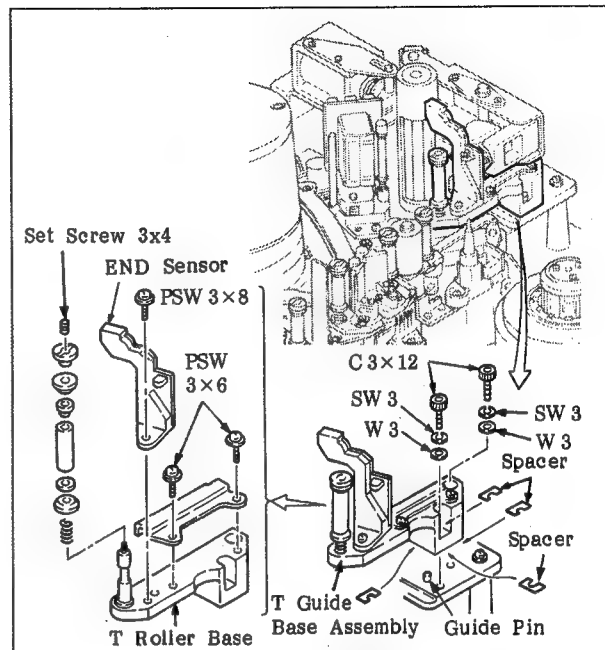

Fig. 6-118 Replacement of the T Roller Base
- Remove the T guide base assembly by referring to Figure 6-118.
- Remove the END sensor. (Figure 6-118)
- If it is not met, insert one of the following spacers in the place shown in Figure 6-118.